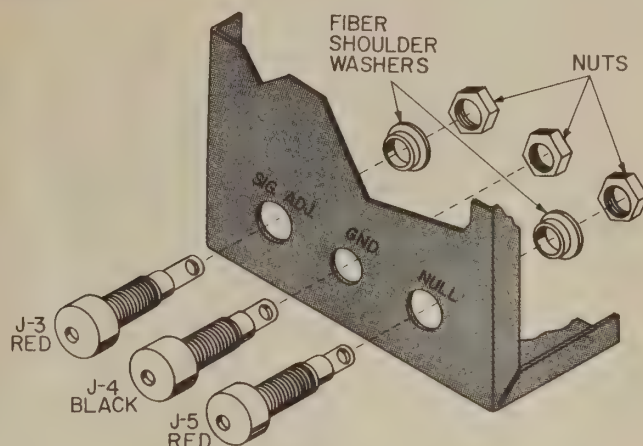

FIGURE 4. PIN JACK MOUNTING
- ☐ Mount J-3, one of the red pin jacks, in the hole marked SIG ADJ. Use a fiber shoulder washer and a nut to hold J-3 in place. See Figure 4.
- ☒ In a like manner, mount J-5, a red pin jack, in the hole marked NULL. See Figure 4.
- ☐ Mount J-4, the black pin jack, in the hole marked GND. DO NOT use a fiber shoulder washer. See Figure 4.